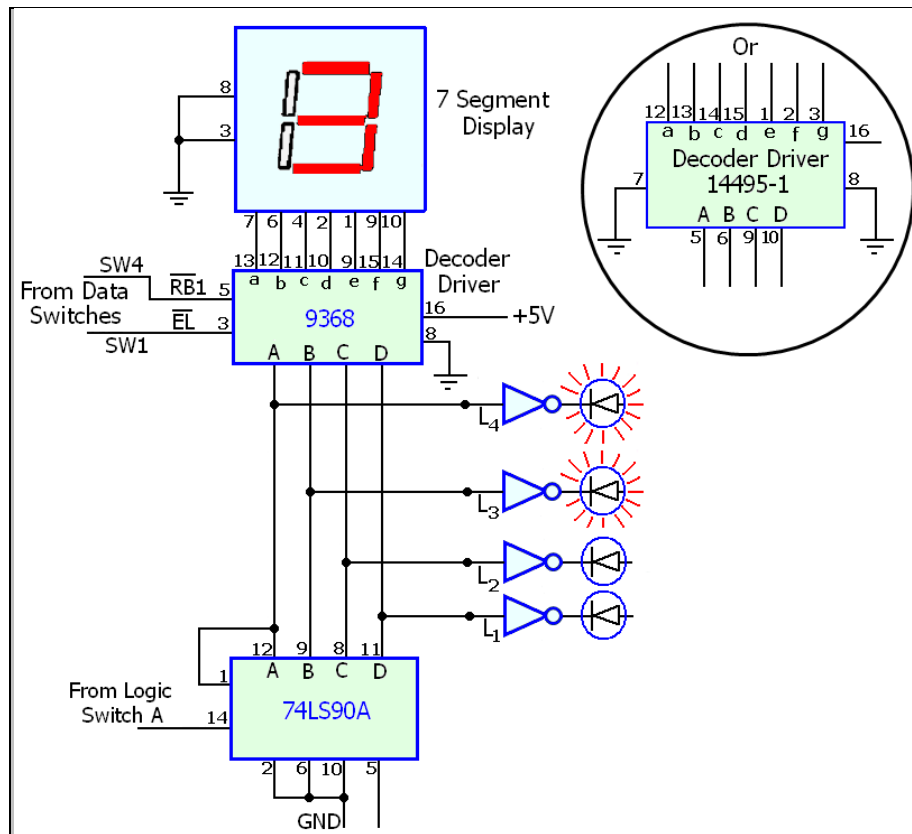
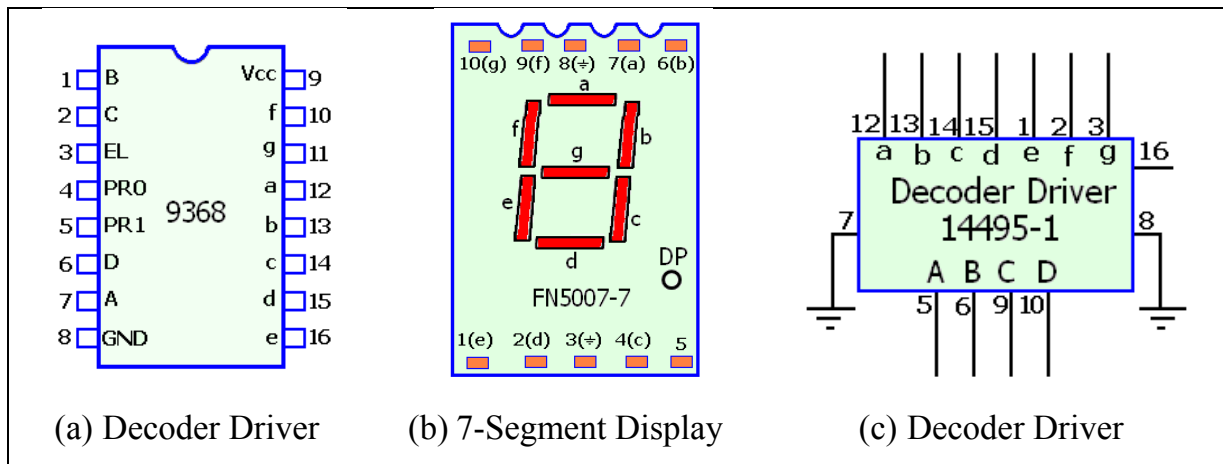

Fig. 2-1 7-Segment Decoder-Driver and Display Circuit
Fig. 2-2(A) Pin Connections for 7-Segment IC Requirements
1. Construct the circuit shown in **Fig. 2-1**. This circuit consists of a 74LS90A BCD counter, a 9368/14495 BCD to 7-segment decoder-driver and a 7-segment LED display. The four BCD outputs of the 74LS90A counter drive the LED indicators L1 through L4 and the decoder-driver. The output of the decoder-driver is used to drive the 7-segment display. The pin connections to the 9368 decoder-driver and the 7-segment LED display are given in **Fig. 2-2**. As before use care in wiring the circuit to prevent wiring errors. Don't forget to connect +5 volts and ground to each IC. The 9368-IC is a 7-segment decoder-driver. It accepts the 4-bit BCD number from the 74LS90A BCD counter. The 9368-IC contains a 4-bit latch that can be used to store the four-bit input. The output of this latch is fed to the decoder circuit that converts the BCD input into the 7-segment output code described earlier. Driver transistors in the IC provide the current necessary to operate the 7-segments of the display. The 4-bit latch is loaded or enabled by the EL-input pin. This IC also contains a ripple blanking input line (RBI) to permit blanking of leading zeros.